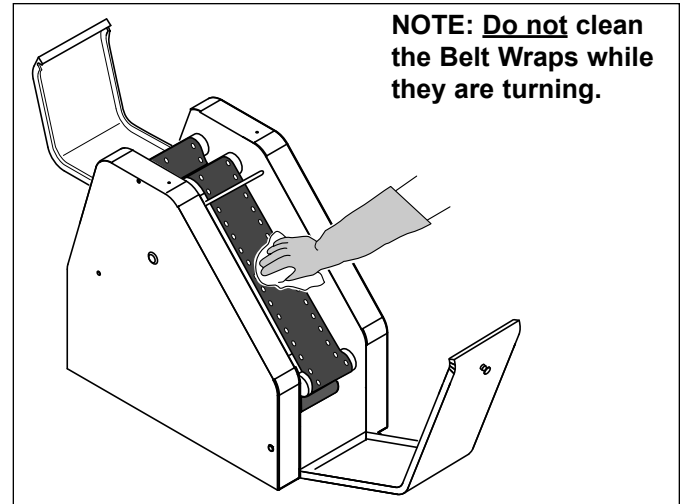

Figure 9. Cleaning the Belt Wraps
2. Wearing heat resistant gloves, wipe the outer side of the upper Belt Wrap with a clean towel dampened with **McD® All-Purpose Super Concentrate (APSC) (HCS)**. See Figure 9.